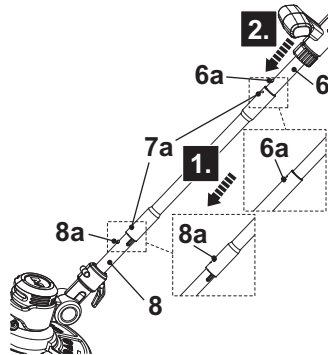

Fig. 1
1. Align the middle pole (7) with the lower pole (8) and insert it. Make sure the locking pin (8a) snaps in the bore (7a) for reliable connection (Fig. 1, step 1).
2. Align the upper pole (6) with the middle pole (7) and insert it. Make sure the locking pin (6a) snaps in the other bore (7a) for reliable connection (Fig. 1, step 2).